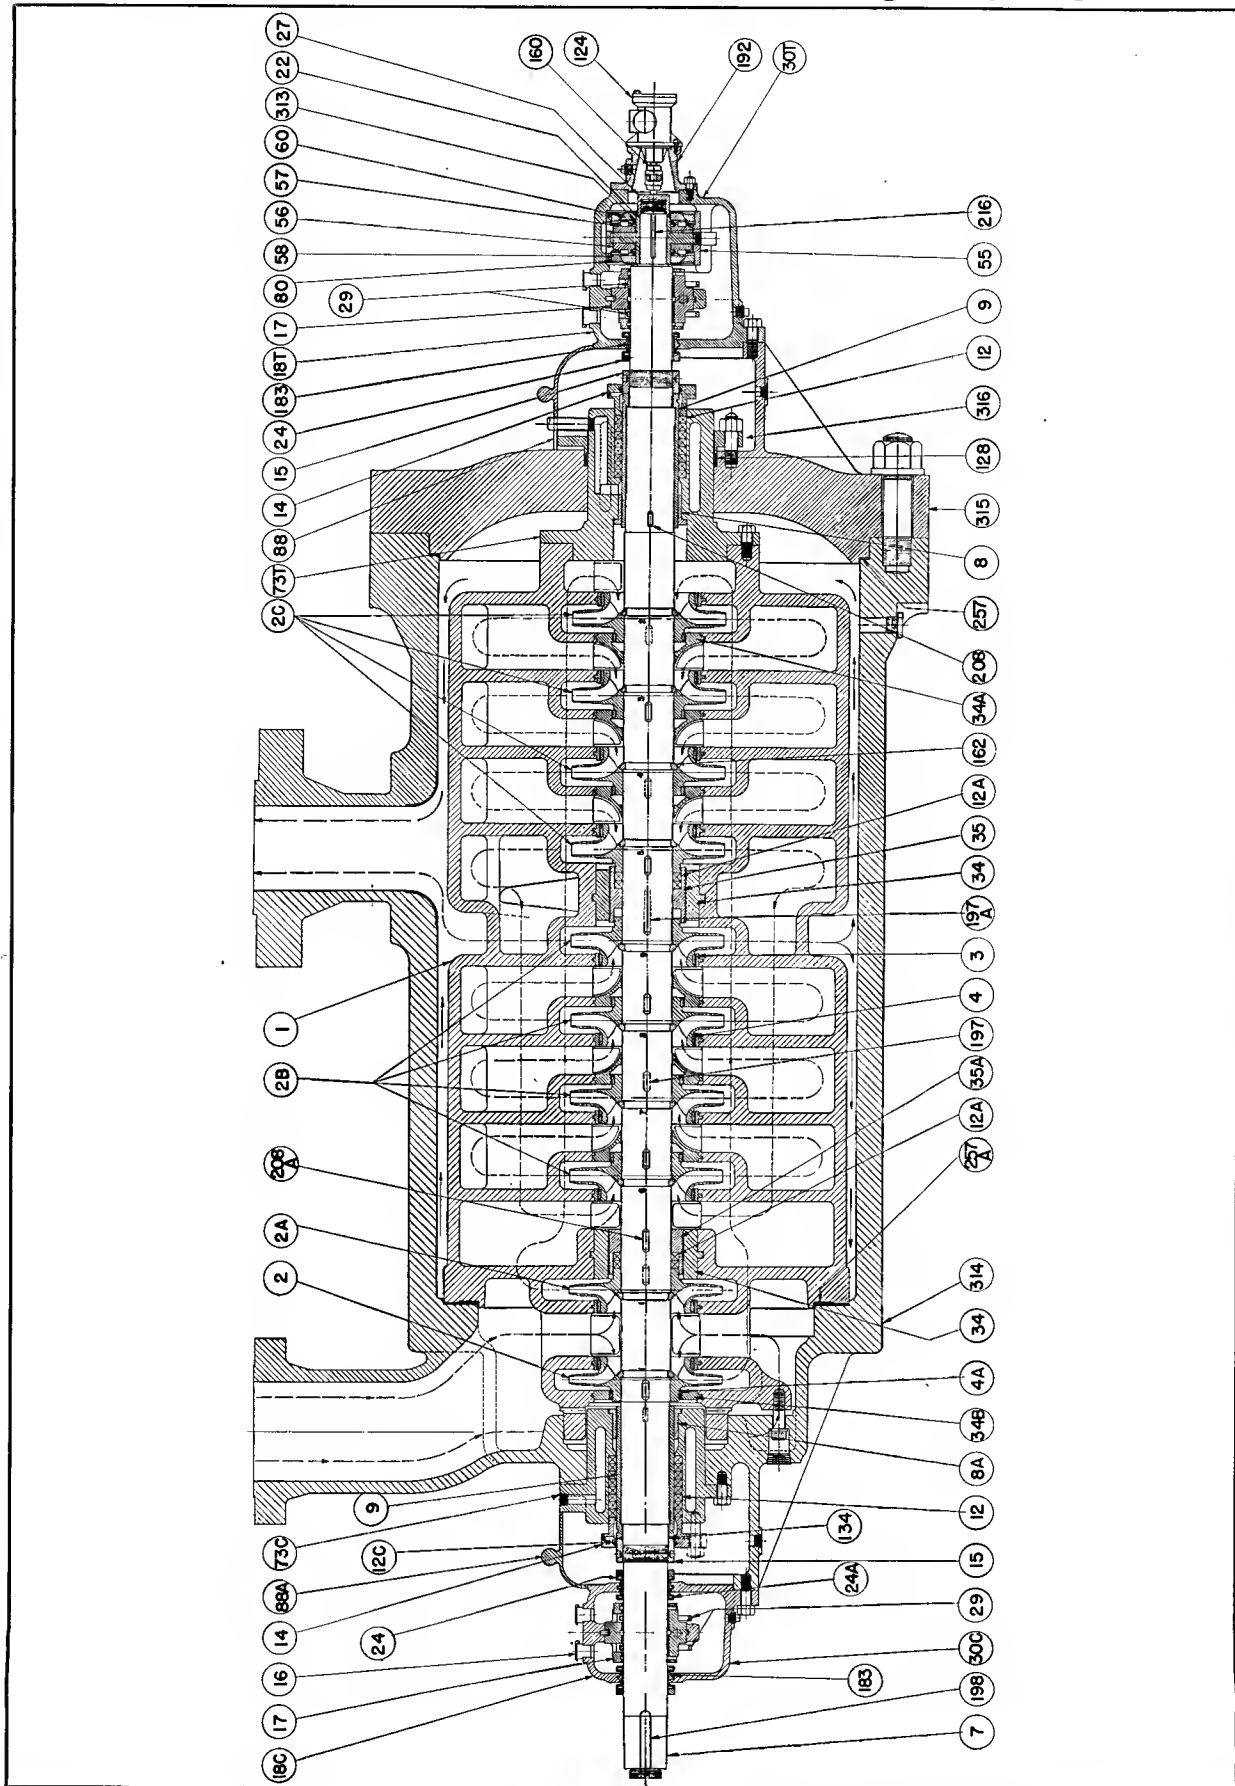

Fig. 27 — Barrel type pump with oil lubricated sleeve and Kingsbury type thrust bearings.
15. Barrel Type Multi-Stage Pumps (Fig. 27, 28)